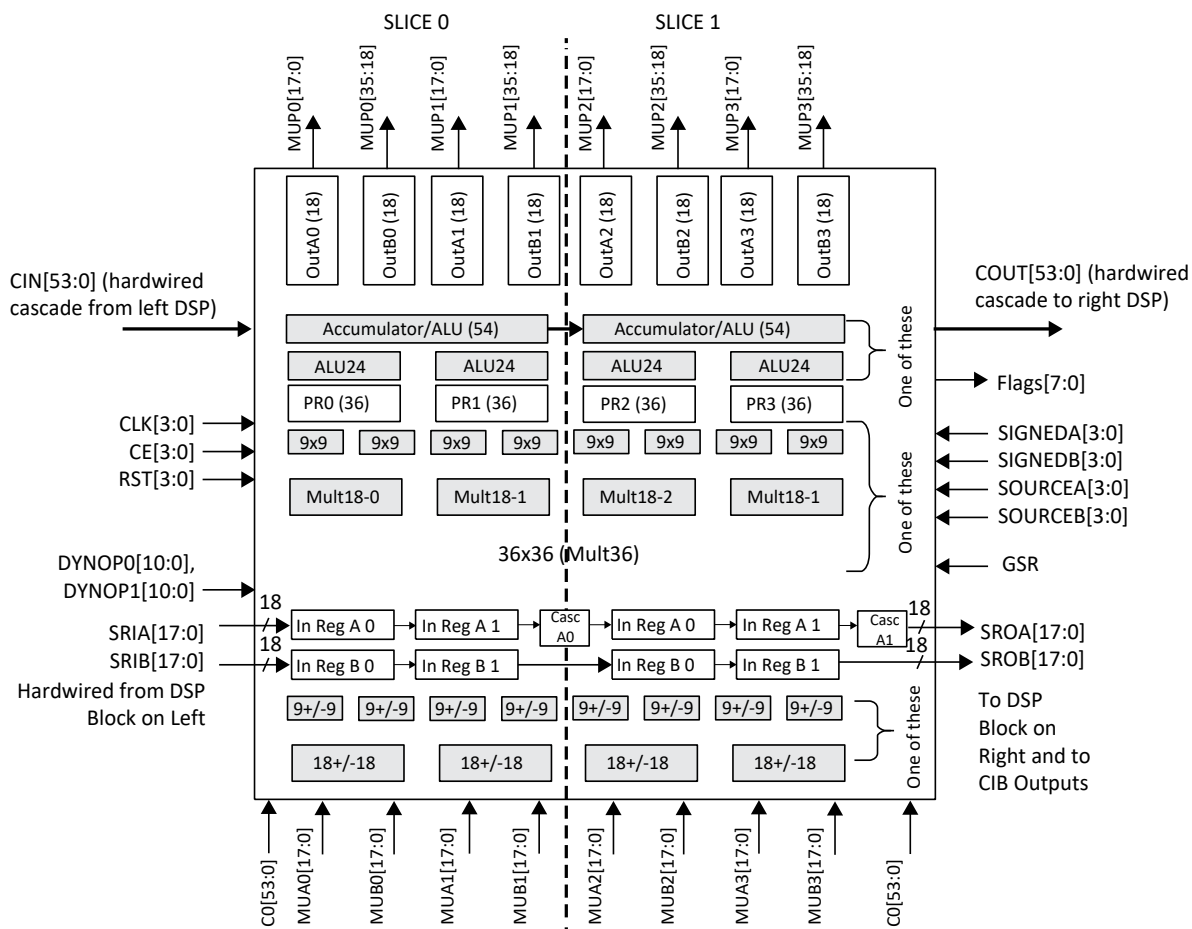

Figure 2.3. Simplified sysDSP Block Diagram
| Figure 2.3. Simplified sysDSP Block Diagram | 8 |
The input registers (IR) are 18-bits wide. The output registers (OR) and framing register (FR) share a 72-bit register. If simple multiplier mode is implemented, the register is used as a multiplier output register. If an ALU is implemented, it is used as the ALU output register. The simplified sysDSP block diagram is shown in Figure 2.3.